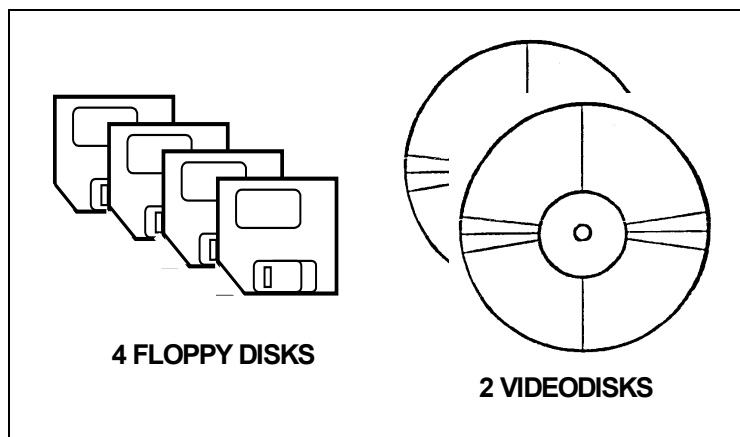

Figure B-4. DGT media.
d. **Media.** Each DGT comes with its own set of four floppy disks (3.5 inch) and two videodisks (12 inch) (Figure B-4).